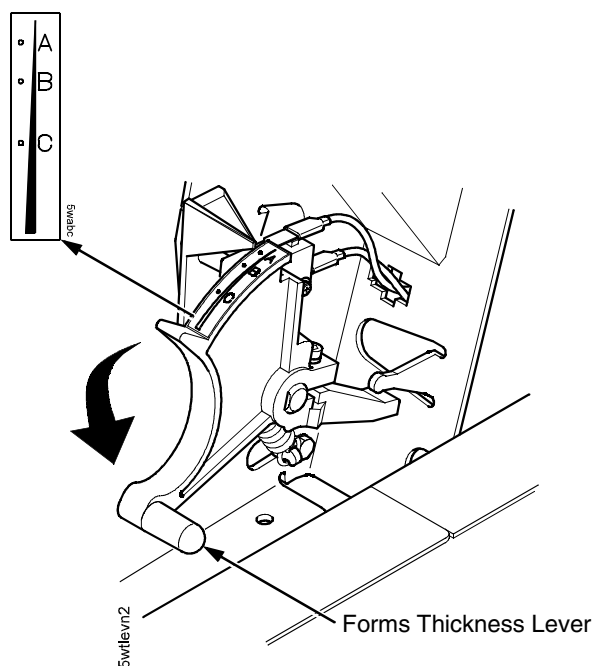

Figure 53. The Forms Thickness Scale
4. Lower the forms thickness lever. The CLOSE PLATEN fault clears automatically. Set it to match the paper thickness. If you are using single-part forms, set the forms thickness lever so that "A" is next to the indicator. Refer to the note on the shuttle cover. See Figure 53.